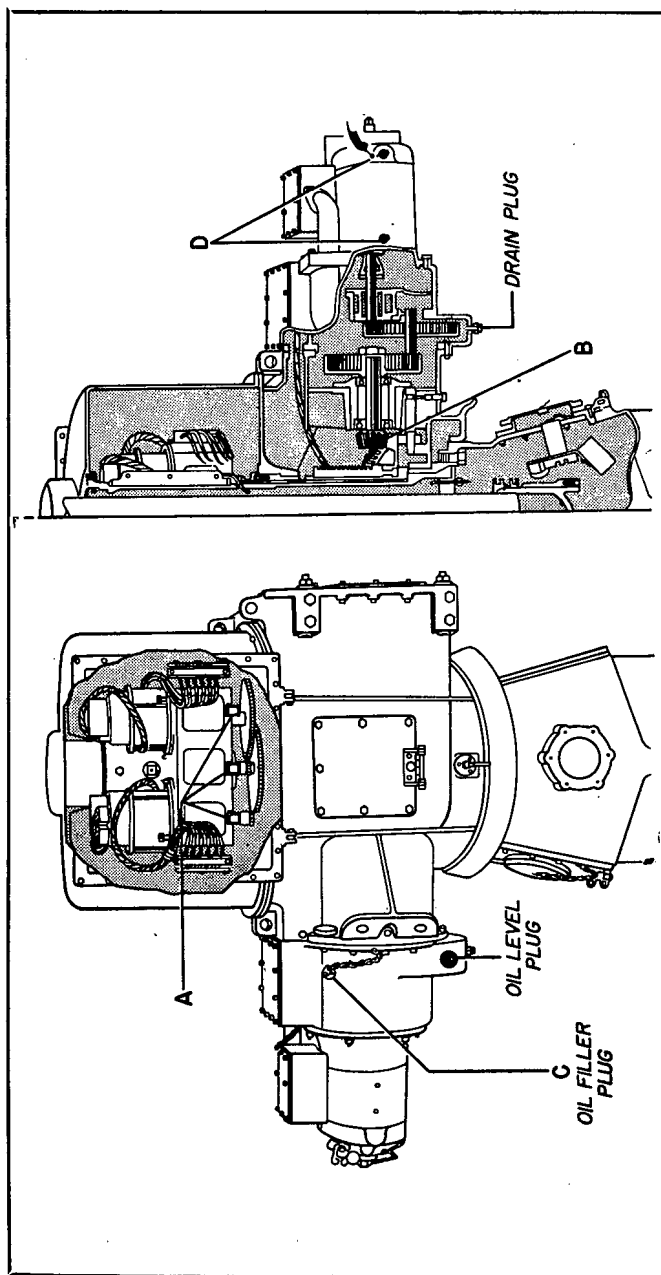

Figure 6-13. Lubrication of Antenna Pedestal
(1) The lubrication chart for the Antenna Pedestal is shown in Fig. 6-13. The plain bearings, such as the bearings between the rotating housing and the center post, are graphite impregnated and require no lubrication throughout the life of the equipment. The ball bearings do not require any special attention except during the annual overhauling process. At this time they should be cleaned, inspected and lubricated. The oil reservoir housing should not require refilling unless leakage occurs. However, the oil level should be inspected as directed in Fig. 6-13. The Antenna Pedestal should be level when the oil level is inspected. To check the oil level, remove the plug shown in Fig. 6-13. The oil should be even with the bottom of the oil level plug hole. If the oil level is low, remove the oil filler plug shown in Fig. 6-13 and add Federal Standard Stock Catalog No. 14-O-2162, Navy symbol N.S. 9110 lubricant or its equivalent. When the oil runs out of the oil level hole, the proper amount of lubricant has been added. In cases where the oil appears to be dirty, the oil should be drained. To do this remove the drain plug and the filler plug. The gear case can be flushed if necessary. The synchrotic gear shafts shown in Fig. 6-13 are accessible when the inspection door is removed. To do this, remove the cap screws that secure the door and then raise the covers on the three oil cups and fill the oil cups with Federal Standard Stock Catalog No. 14-O-884-10 symbol Ordnance Spec. OS-1113. The synchro units are lubricated as described in par. 6k of this section.